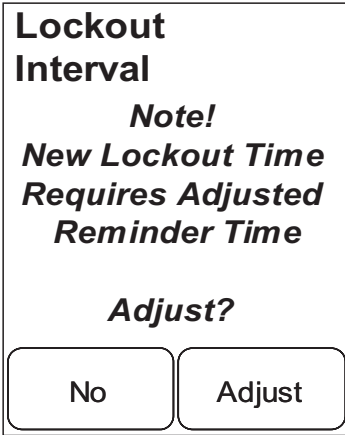
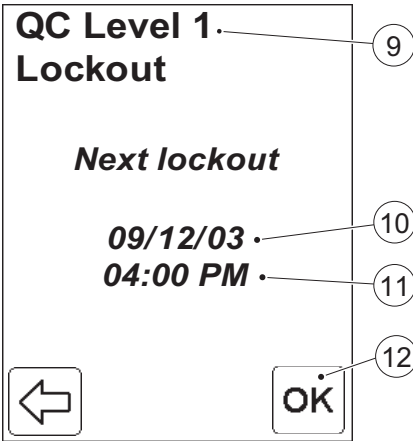

FIGURE 3-72
FIGURE 3-73
If the reminder time needs to be adjusted, *FIGURE 3-72* will be displayed. Otherwise *FIGURE 3-73* will be displayed.
- d) To adjust the reminder time to fit the new QC lockout time, press Adjust. After adjusting to an acceptable reminder time (see FIGURE 3-76), FIGURE 3-73 will be displayed.